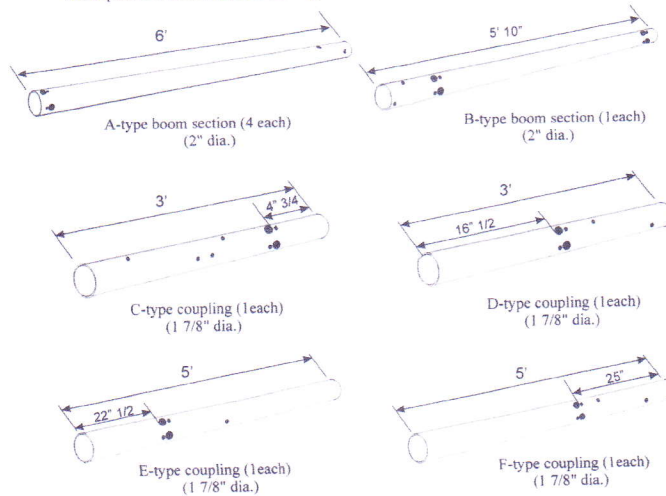

figure 1- boom sections & couplings
- 3) Install the E-type coupling (identify from fig.1) in the appropriate end of the B-type boom section, as shown in fig. 3. Insert 2 of the 1/2" dia. rod support brackets through both the boom and coupling sections after aligning the 1/2" holes. Again bolt the rod support brackets in place with 10-32 x 2 1/2" bolts.
Note: Make certain to seal the coax against moisture where braid stops, as shown in fig. 1. A silicone type sealer works fine, as long as the coax is not moved around too much after the sealer is applied. It is therefore best to apply the sealer after any matching adjustment (described in next step) are performed.